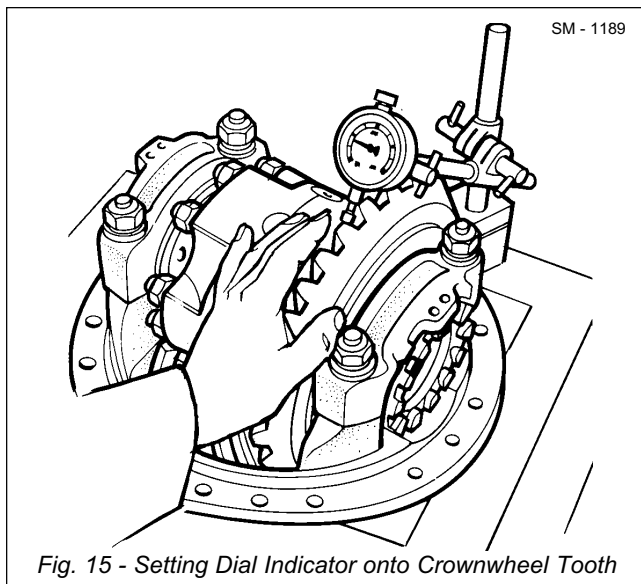

Fig. 15 - Setting Dial Indicator onto Crownwheel Tooth
1. Move dial indicator onto crownwheel (46) tooth as shown in Fig. 15. Hold spiral bevel pinion (33) still and rock crownwheel (46) backwards and forwards, to check free play between gears (backlash), and note variation of indicator reading.
2. Repeat the above steps three more times so that four readings are taken at positions equally spaced around crownwheel (46).